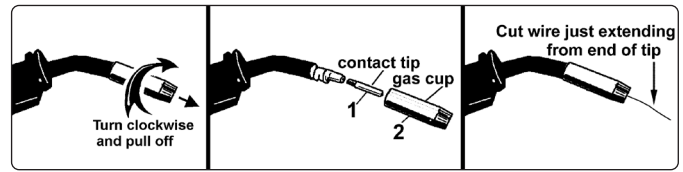

fig.7
d) Unscrew copper contact tip (right hand thread) to remove (fig.7).
12.4. CONTACT TIP The contact tip is a consumable item and must be replaced when the hole becomes enlarged or oval. The contact tip MUST be kept free from spatter to ensure an unimpeded flow of gas. Refer to fig.7 and section 7 for removal and replacement.